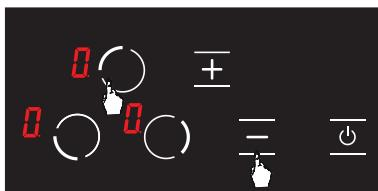

Figure 25
2. Press upper left hob selection key (**⊕**) and minus key (**-**) simultaneously. (see Fig. 25) You shall hear a short warning signal at this time. Then, remove your fingers from the stove control panel.